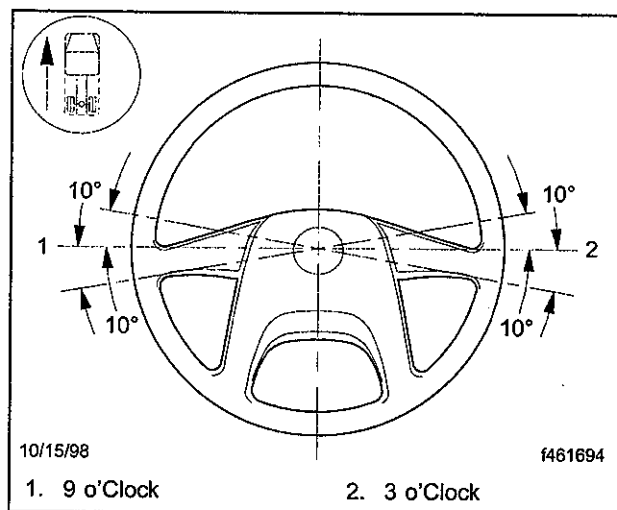

Fig. 7, Centering the Steering Wheel
29. Make sure that the steering wheel spokes are within 10 degrees of the 3 o'clock and 9 o'clock positions on the steering wheel. See Fig. 7.